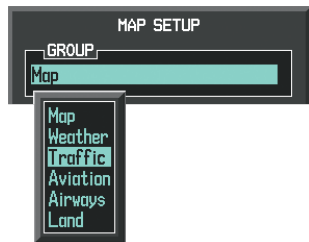

Figure 6-119 Navigation Map Page Setup Menu
- 4) Turn the small **FMS** Knob to select the Traffic Group and press the **ENT** Key (Figure 6-119).